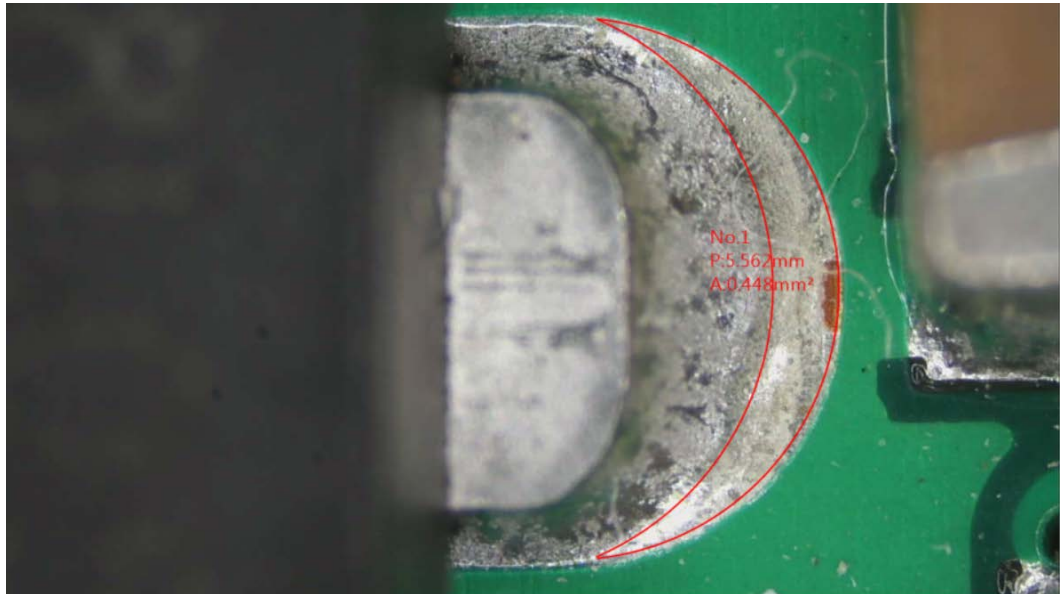

Fig 5-29 Measure Lune Shape
- (18) Lune Curve: Measure Lune  shape, such as the area of solder amount on components, first two clicks on the left and right point of lune shape, thirdly click on the outer shape of lune shape, then the last click on the inner curve of lune shape. 4 clicks to make a Lune shape. See Fig 5-29.